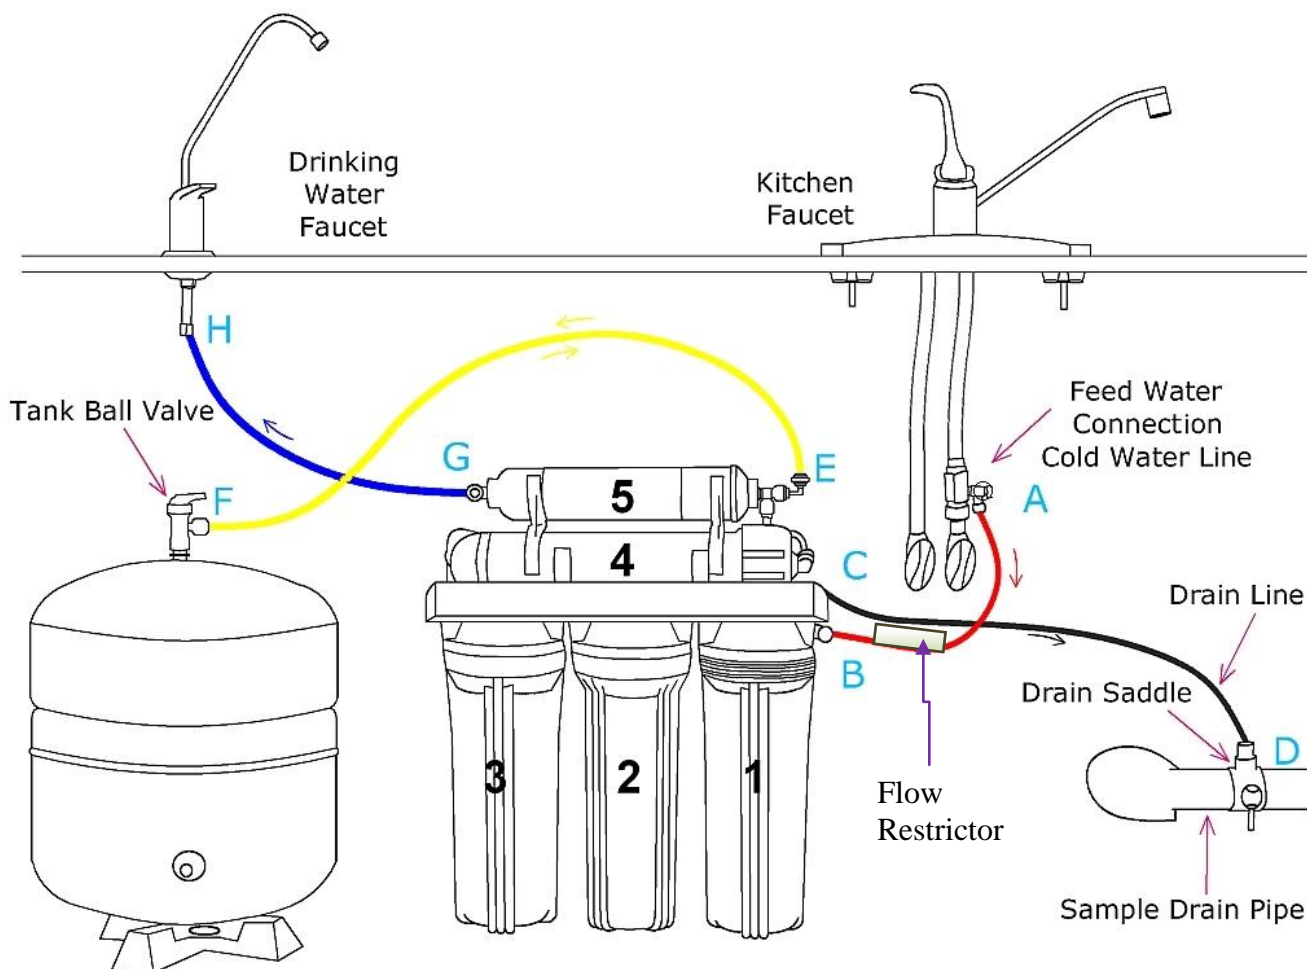

Figure 5
Step 1. a. See Figure 5. Turn off the Cold Water Line via the Cold Water Supply Valve (CWSV) under the sink. Open the kitchen faucet to release any pressure and ensure the water has stopped before proceeding to the next step. Get a towel or bucket to catch any water drips. Disconnect the Kitchen Faucet Connector (KFC) pipe from the CWSV.
Step 7: Tubing Hook Up (see figure 5 above to see letters not shown below)